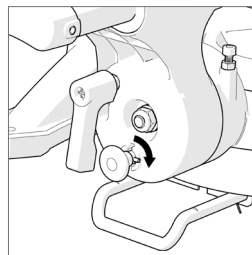

Fig. 35
- Turn the Pin through $1/4$ of a turn (**Fig. 35**)